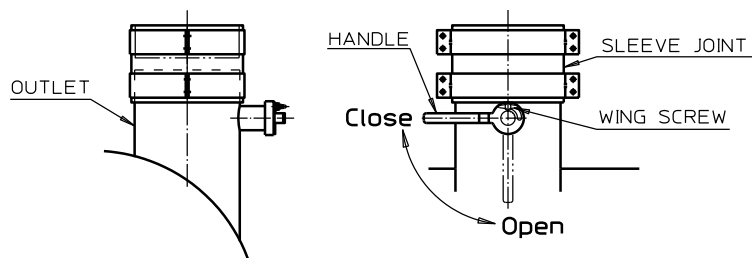

Fig.4 Damper
- (1) Air volume is adjusted by the damper. After adjusting the volume with the handle, its position can be fixed by the wing screw. (Fig.4)